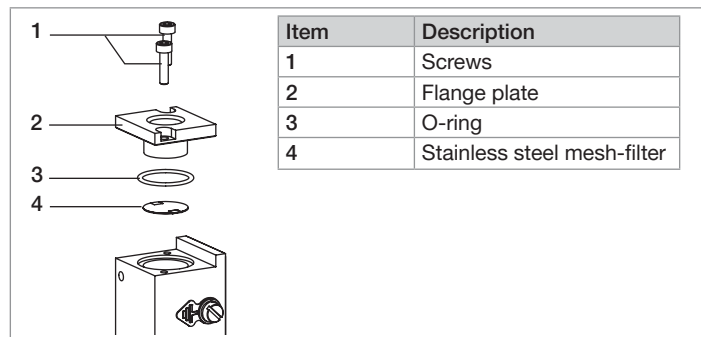

Fig. 25: Exploded view – Parts in contact with the operating fluid
- Mount the parts back in the correct order, as given in Fig. 25.